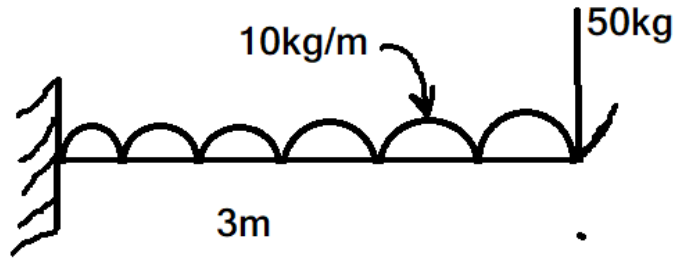

figure 4
- (c) Draw Shear force and bending moment daigram for beam shown in figure 4. **04**